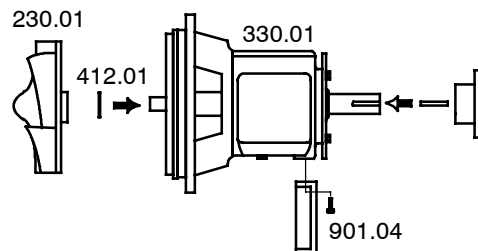

Fig. 20
- 1 Fit the o-ring (412.01) into its place behind the impeller (230.01). Fig. 20.